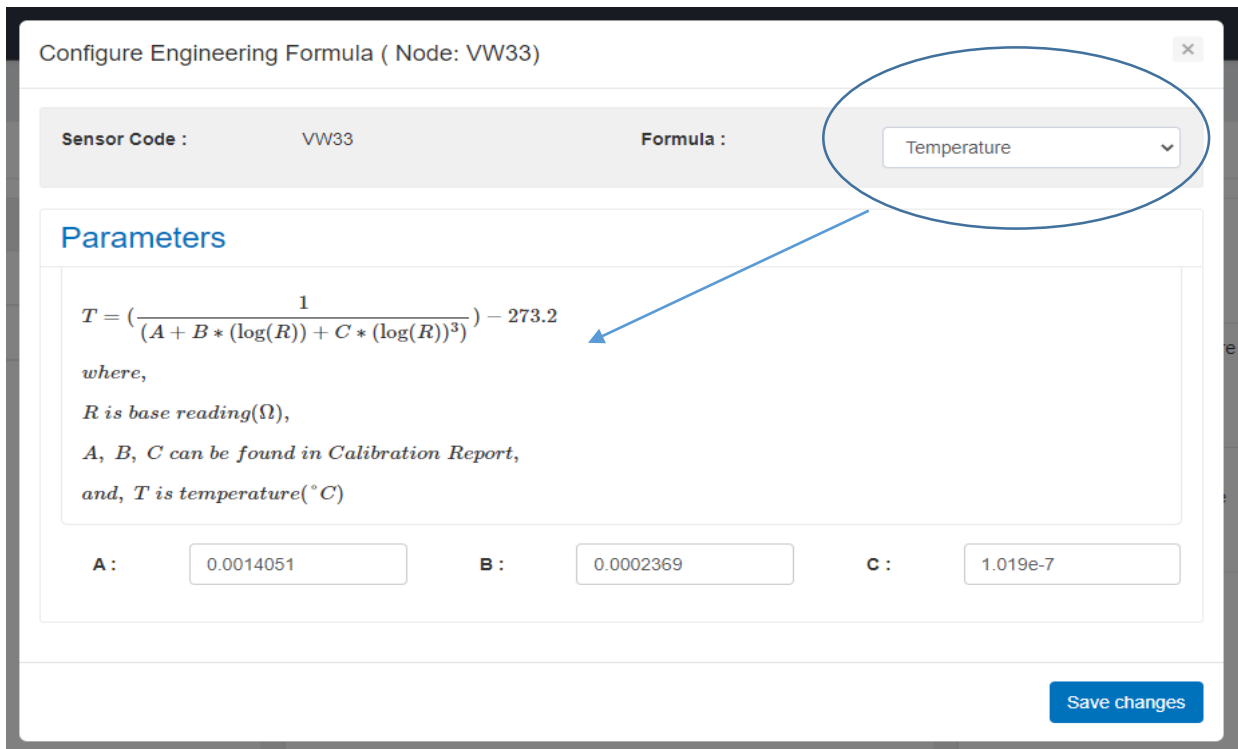

Figure 3-33
- 8. Similarly, for Temperature reading from vibrating wire sensor, the following formula will be displayed as shown in figure 3-33.